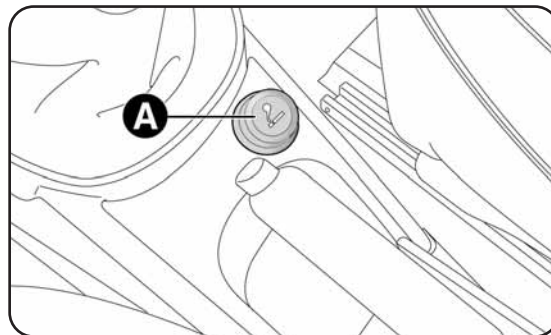

fig. 49
**CIGAR LIGHTER (where provided) fig. 49**